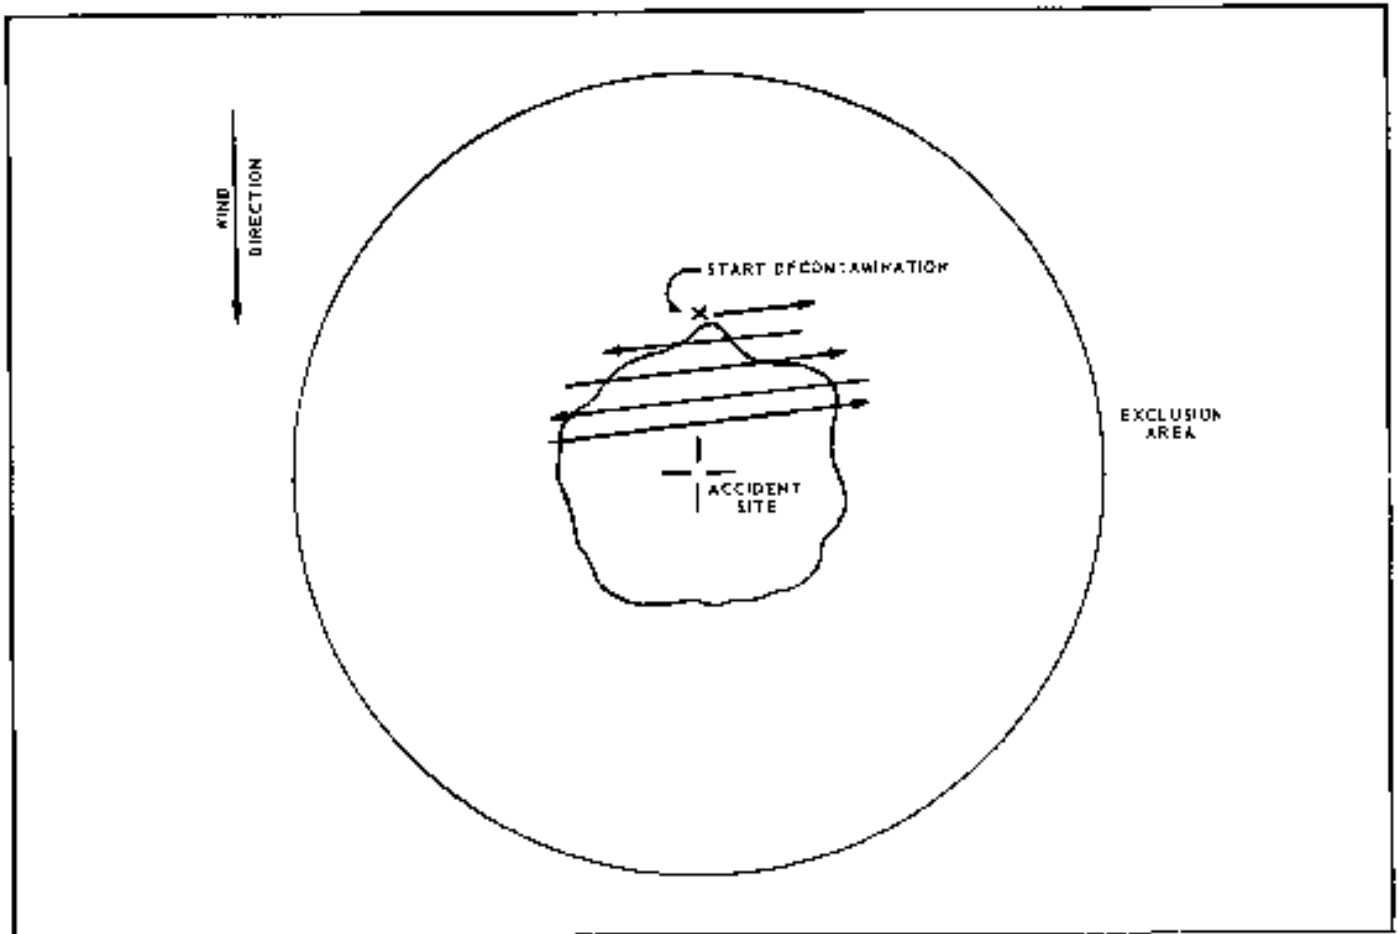
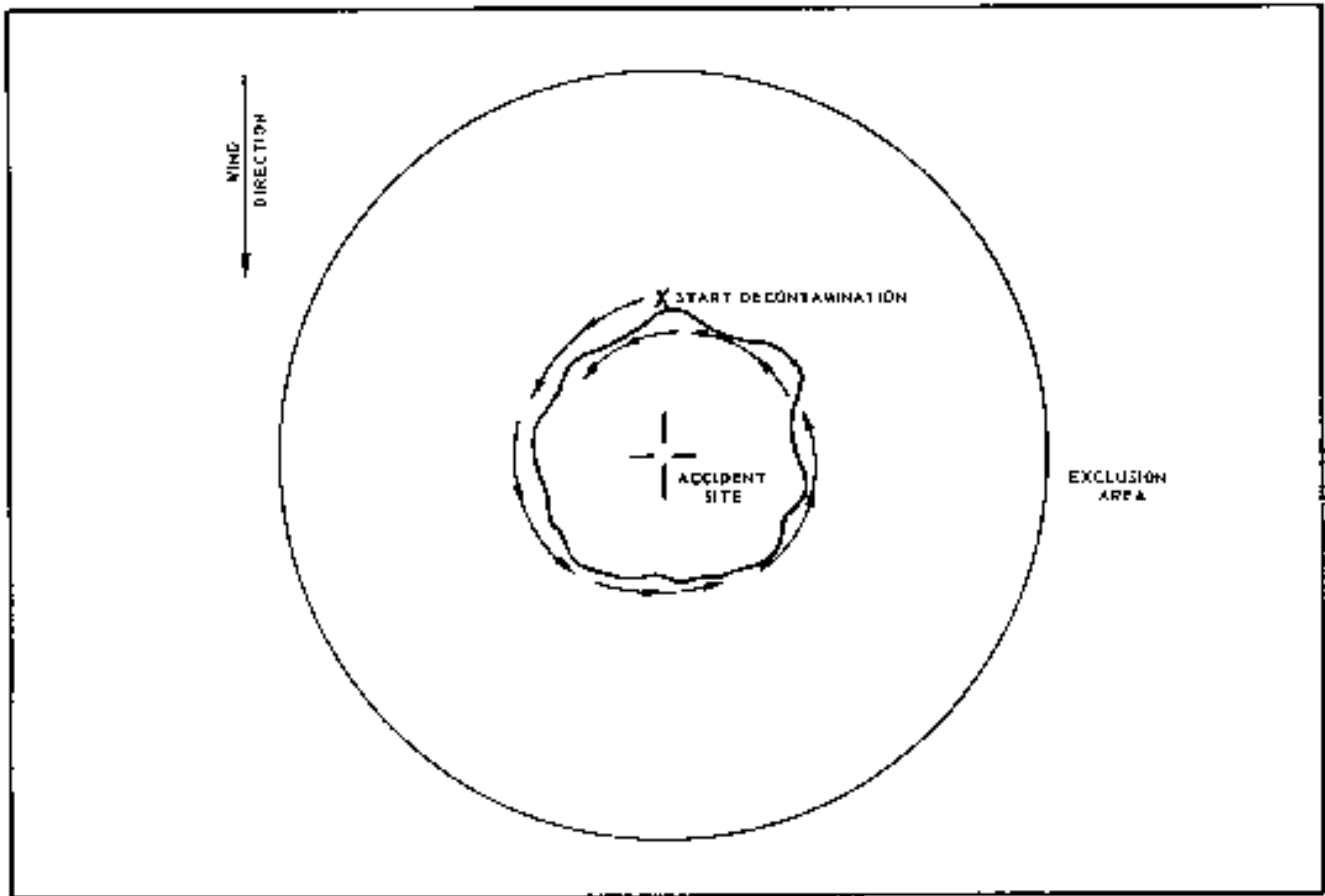

Figure 7. Area Decontamination by the Back-and-Forth Procedure
Figure 8. Area Decontamination by the Circular Procedure
- Neutralization procedures for chemical contaminants should begin at the farthest point of contamination from the accident site and proceed inward, moving in a back-and-forth direction (fig. 7) or in a circular direction (fig 8). To insure complete decontamination of the area, operations should begin several meters from known contaminated locations.